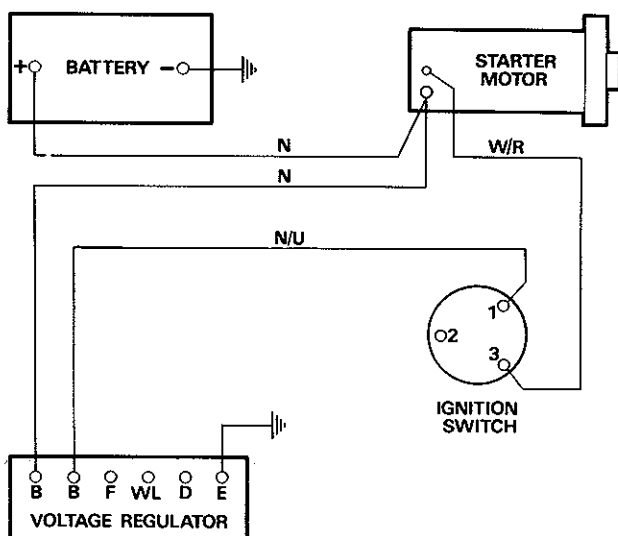

Fig. 1
1. The starter motor is a conventional heavy duty 12 V series motor. It is permanently connected on the negative side to earth, and a heavy duty lead connects the battery positive to the motor via solenoid operated contacts. The solenoid is energised from the battery via contacts 1 and 3 of the ignition switch. The starting circuit is shown in fig. 1.